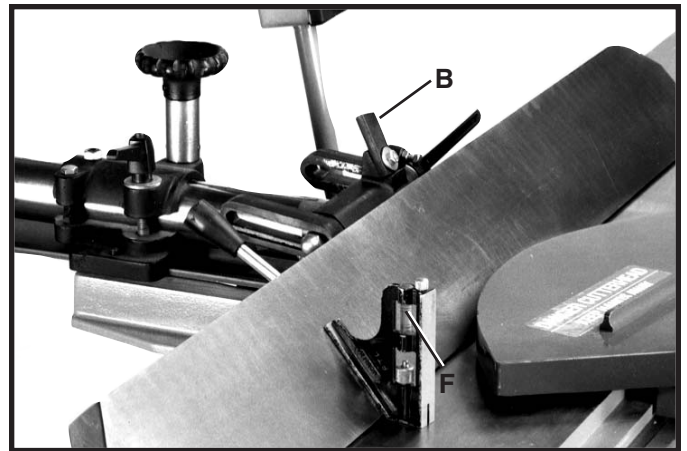
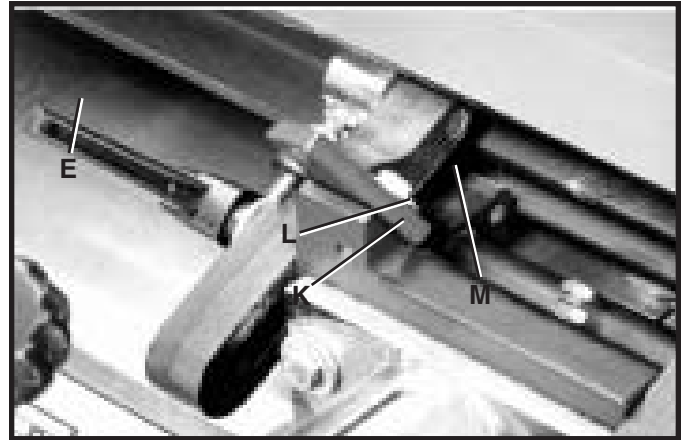

Fig. 26
Fig. 27
5. Tilt the fence outward as far as possible and using a combination square (F) Fig. 26, check to see if the fence is tilted outward 45 degrees to the table, as shown. **NOTE:** 90 degree stop (B) must be rotated up in order to tilt the fence outward. If an adjustment is necessary, loosen lock nut (K) Fig. 27, and adjust screw (L) until head of screw (L) contacts back of fence (M) when the fence is at 45 degrees to the table.